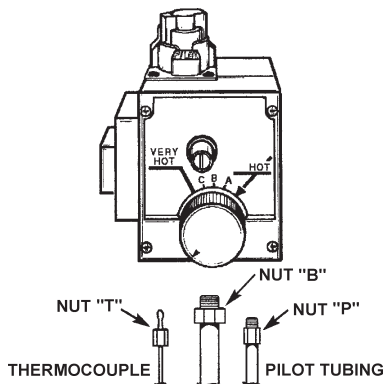

FIGURE 14.
- Loosen flare nut "T" holding thermocouple to bottom of gas valve with 3/8" open-end wrench and pull down to remove, see Figure 14.
- Loosen flare nut "P" holding pilot line to bottom of gas valve with 7/16" open-end wrench and pull tube down to remove, see Figure 14.
- Loosen flange nut "B" holding burner tube to bottom of gas valve with 3/4" open-end wrench and pull down to remove, see Figure 14.